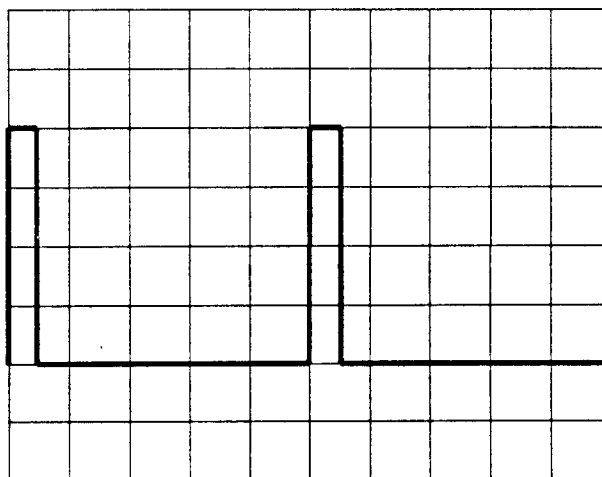

Figure 9. Equipment Calibration Waveform
12. Adjust the pulse generator's frequency vernier so that pulses are approximately five divisions apart. See Figure 9.